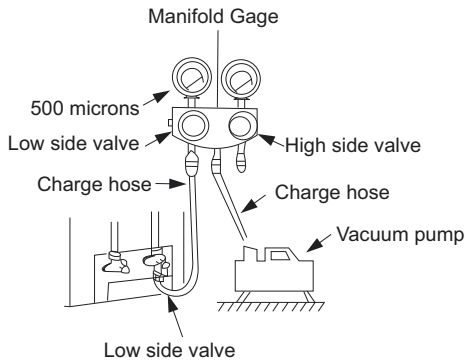

Fig. 17 – Manifold
- 3 Fully open the low side of manifold gage (see Fig. 17).